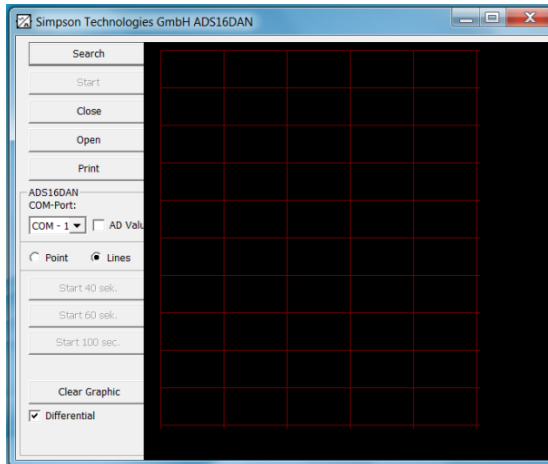

Figure 5.1.1
3. The user interface screen should now be displayed. Various settings can be configured on the left side of the screen. (See Figure 5.1.1).
4. Ensure that the proper COM port is selected. Select the COM port with the dropdown list in the center of the left toolbar on the opening screen (Item 6, Figure 5.1.1).
5. Establish a connection with the Gas Pressure Measuring Device. This is accomplished by clicking the "Search" button at the top of the left toolbar on the opening screen (Item 1, Figure 5.1.1). Once the connection is established, the Logger number and Scale are displayed on the screen.